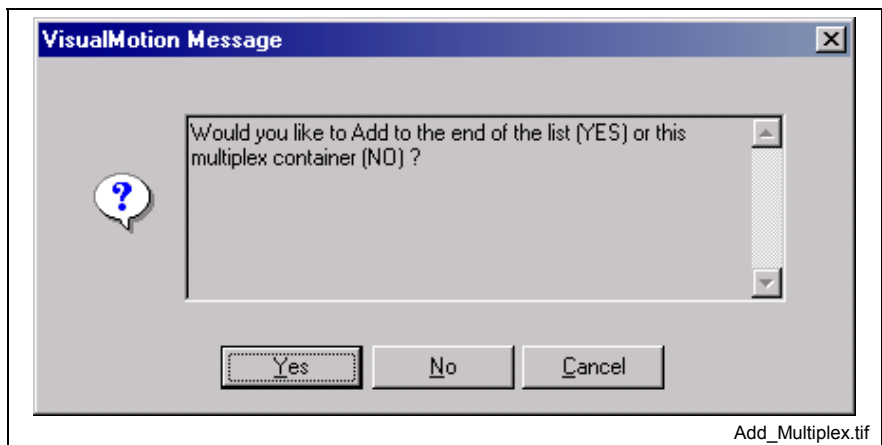

Fig. 7-168: Add Item or Multiplex Item
2. Click **A**dd. The window in Fig. 7-168 below appears. Because it is unclear whether you would like to add to the list or to the multiplex container, the Fieldbus Mapper is requesting clarification.